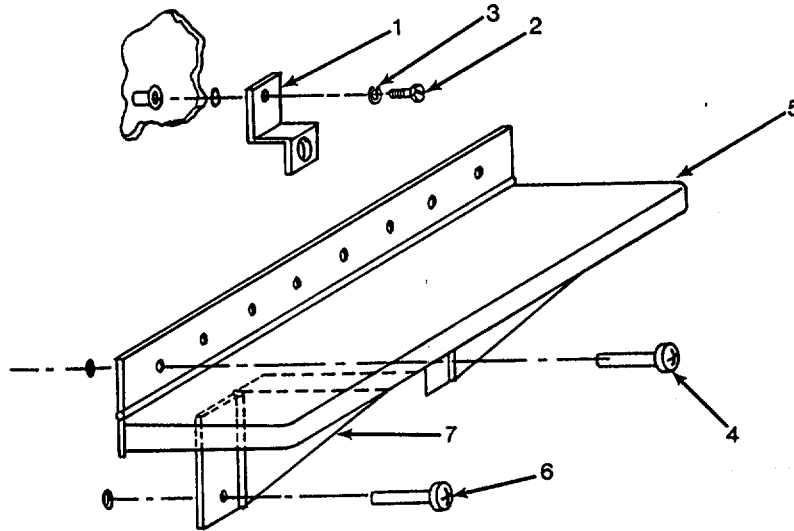

Figure 4-8. Fold Down Artist Shelf
**a. Inspect. (See Figure 4-8.)**
**b. Replace. (See Figure 4-8.)**
- (1) Remove holding bracket (1) by loosening thumbscrew (2) and washer (3).
- (2) Remove fold down tray rivets (4) by drilling or chiseling off heads.
- (3) Remove fold down tray (5).
- (4) Remove support rivets (6) by drilling or chiseling off heads.
- (5) Remove supports (7).
- (6) Secure fold down tray supports (7) to shelter wall with rivets (6).
- (7) Secure fold down tray (5) to shelter wall with rivets (4).
- (8) Secure fold down tray (5) with holding bracket (1) using thumbscrew (2) and washer (3).
c. Repair. (See Figure 4-8.)
- (1) Remove fold down tray bends or dents.
- (2) Repair cracks or tears by welding.
- (3) Remove support bends or dents.